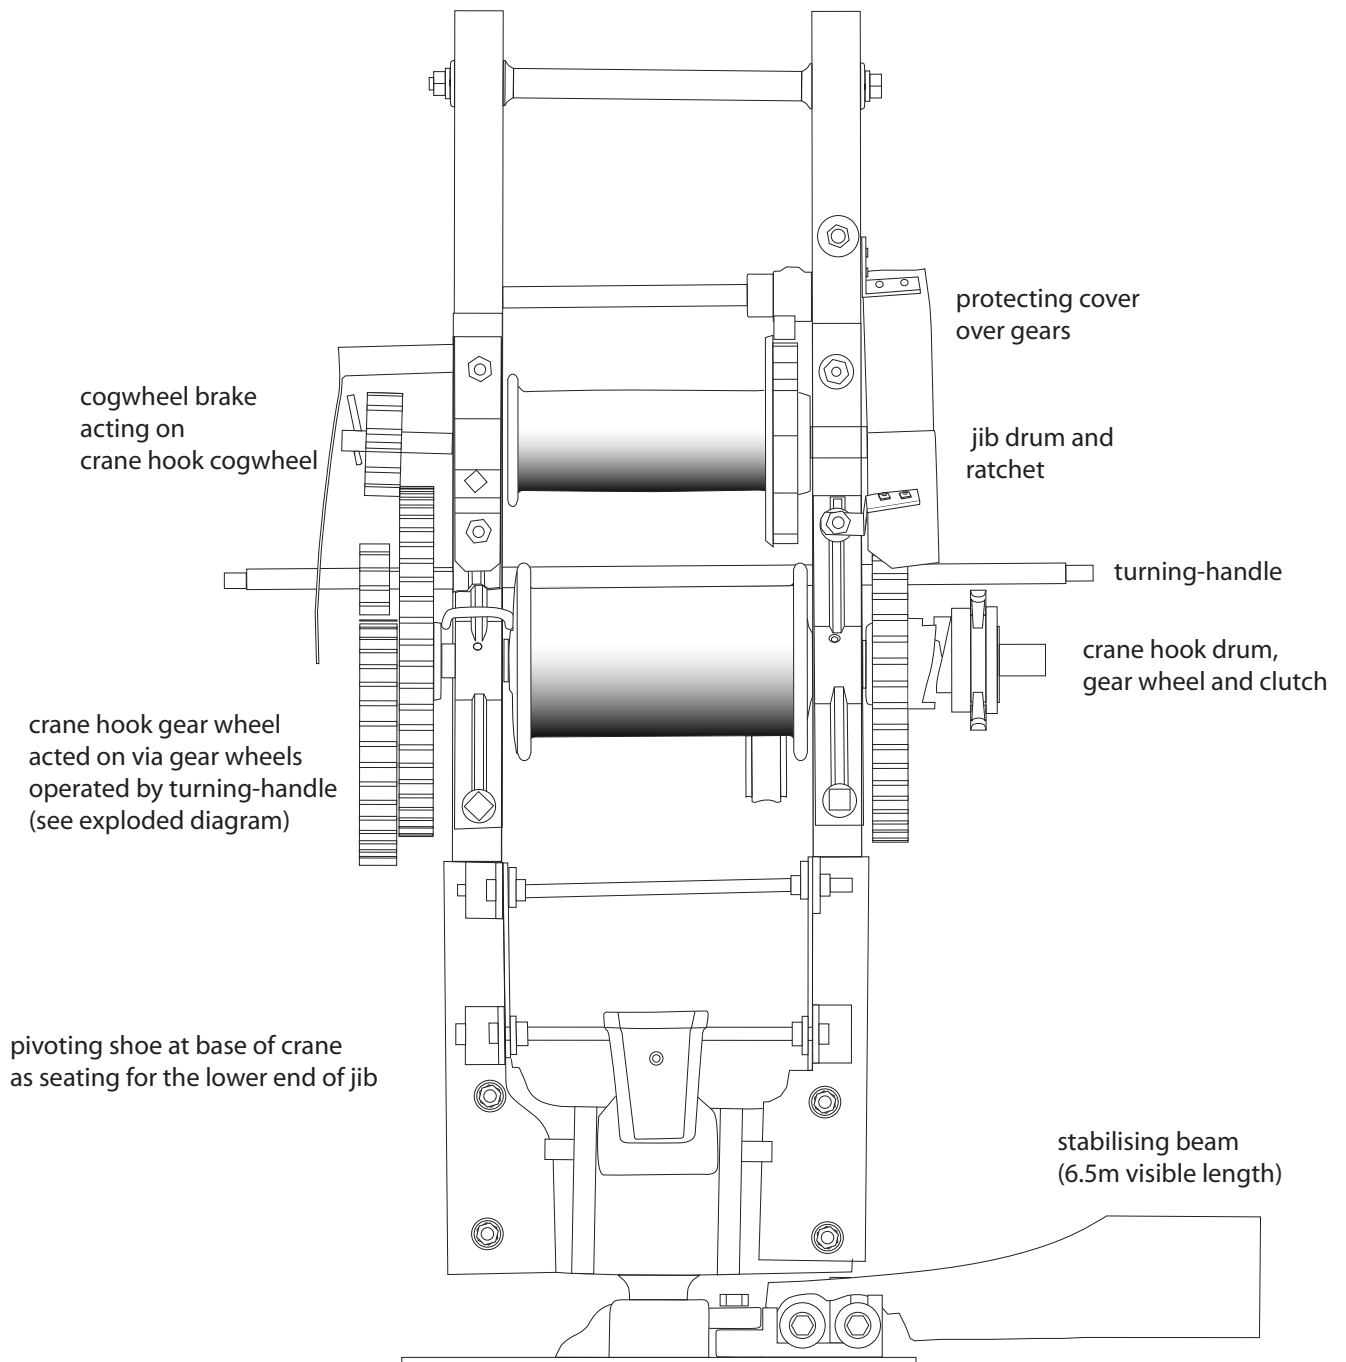

Fig. 5 Back of crane, detail
- Fig. 5 Back of crane, detail (scale 1:10)